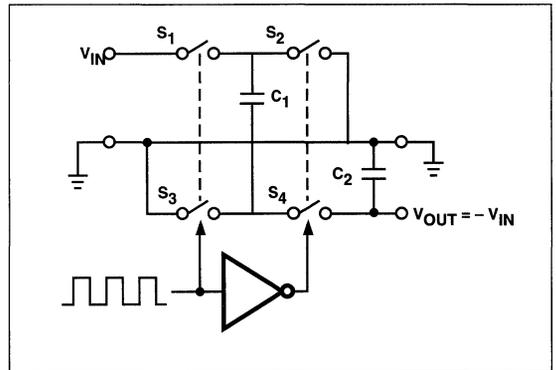
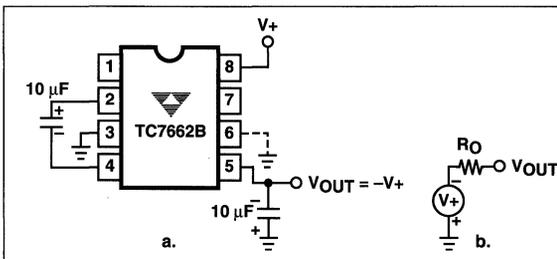
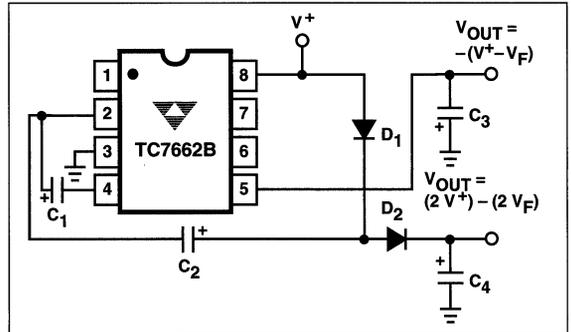

Figure 2. Idealized Negative Voltage Capacitor
Figure 3. Simple Negative Converter and its Output Equivalent
Figure 10. Combined Negative Converter and Positive Doubler
The TC7662B contains all the necessary circuitry to complete a negative voltage converter, with the exception of two external capacitors which may be inexpensive 1μF polarized electrolytic types. The mode of operation of the device may be best understood by considering Figure 2, which shows an idealized negative voltage converter. Capacitor C₁ is charged to a voltage V₊ for the half cycle when switches S₁ and S₃ are closed. (Note: Switches S₂ and S₄ are open during this half cycle.) During the second half cycle of operation, switches S₂ and S₄ are closed, with S₁ and S₃ open, thereby shifting capacitor C₁ negatively by V₊ volts. Charge is then transferred from C₁ to C₂ such that the voltage on C₂ is exactly V₊, assuming ideal switches and no load on C₂. The TC7662B approaches this ideal situation more closely than existing non-mechanical circuits.
In the TC7662B, the four switches of Figure 2 are MOS power switches; S₁ is a P-channel device and S₂, S₃ and S₄ are N-channel devices. The main difficulty with this approach is that in integrating the switches, the substrates of S₃ and S₄ must always remain reverse biased with respect to their sources, but not so much as to degrade their "ON" resistances. In addition, at circuit start up, and under output short circuit conditions (V_{OUT} = V₊), the output voltage must be sensed and the substrate bias adjusted accordingly. Failure to accomplish this would result in high power losses and probable device latchup.
where V₁ and V₂ are the voltages on C₁ during the pump and transfer cycles. If the impedances of C₁ and C₂ are relatively high at the pump frequency (refer to Figure 2) compared to the value of R_L, there will be a substantial difference in voltages V₁ and V₂. Therefore, it is desirable not only to make C₂ as large as possible to eliminate output voltage ripple, but also to employ a correspondingly large value for C₁ in order to achieve maximum efficiency of operation.
The majority of applications will undoubtedly utilize the TC7662B for generation of negative supply voltages. Figure 3 shows typical connections to provide a negative supply where a positive supply of +1.5V to +15V is available. Keep in mind that pin 6 (LV) is tied to the supply negative (GND) for supply voltages below 3.5 volts.
The output characteristics of the circuit in Figure 3 can be approximated by an ideal voltage source in series with a resistance as shown in Figure 3b. The voltage source has a value of $-(V_+)$. The output impedance (R_O) is a function of the ON resistance of the internal MOS switches (shown in Figure 2), the switching frequency, the value of C_1 and C_2 , and the ESR (equivalent series resistance) of C_1 and C_2 . A good first order approximation for R_O is:
Figure 10 combines the functions shown in Figures 3 and 9 to provide negative voltage conversion and positive voltage doubling simultaneously. This approach would be, for example, suitable for generating +9V and -5V from an existing +5V supply. In this instance, capacitors C_1 and C_3 perform the pump and reservoir functions, respectively, for the generation of the negative voltage, while capacitors C_2 and C_4 are pump and reservoir, respectively, for the doubled positive voltage. There is a penalty in this configuration which combines both functions, however, in that the source impedances of the generated supplies will be somewhat higher due to the finite impedance of the common charge pump driver at pin 2 of the device.